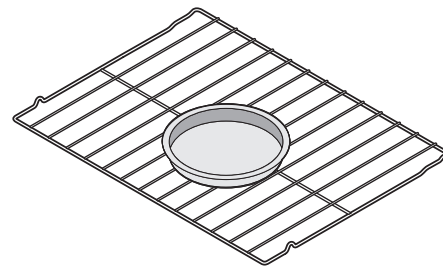
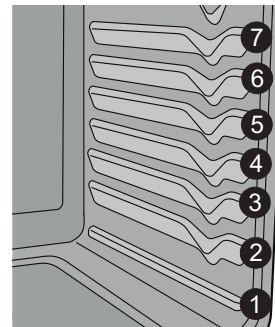

Figure 20: Single rack baking for convenience foods
Figure 21: Oven rack position (4) best for cooking convenience foods
- Always place food in center of the oven on rack position 4 (Figure 21). Place the food as shown in Figure 20.